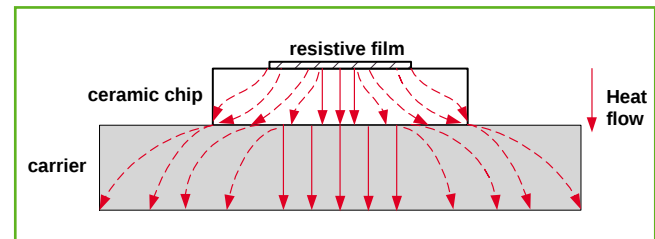
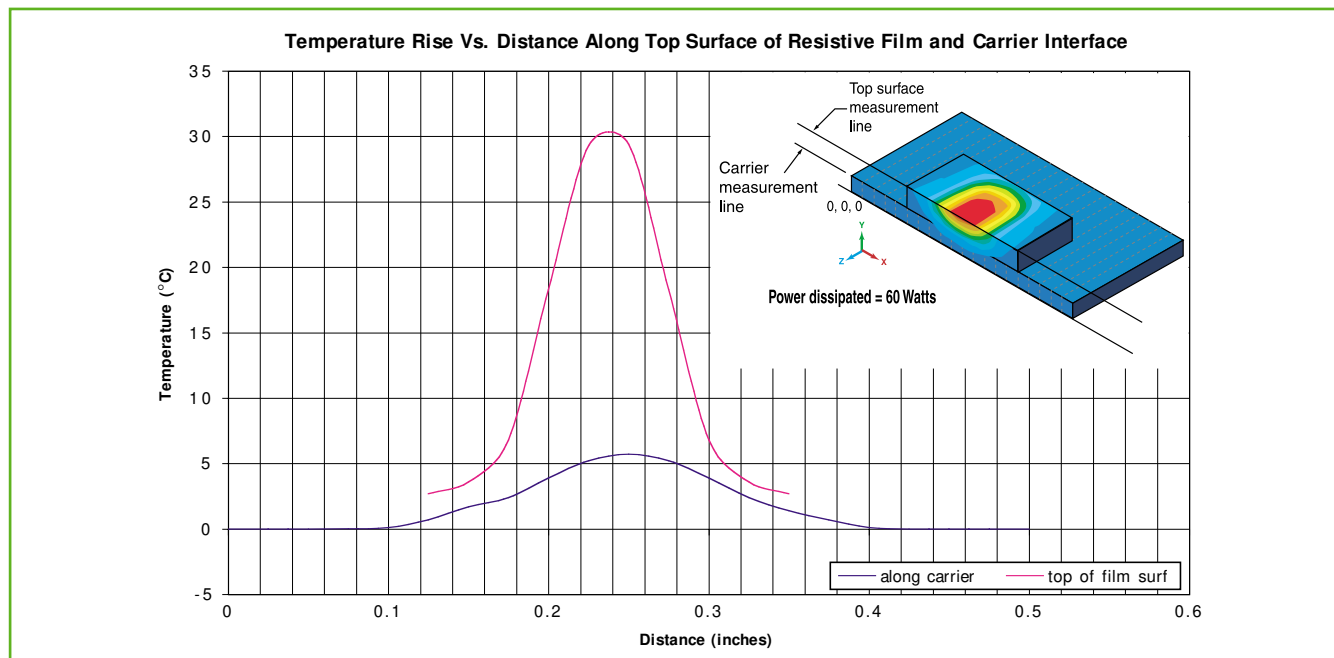
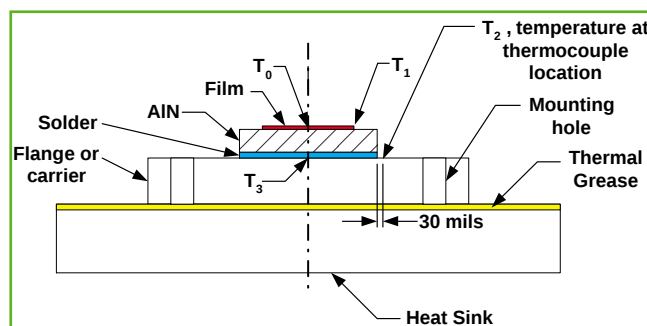

Figure 10. Heat flow around a mounted chip resistor
Figure 11: Computer simulation of isotherms around mounted chip resistor
Figure 12. Temperatures at a number of points on and around a groundplane-mounted resistive chip
Before we can do a thermal design, we must first decide on exactly what we shall mean by "power rating" for a chip device. **Figure 10** illustrates the heat flow around a mounted chip resistor. The resistive film, assumed to have constant power dissipation over its surface, behaves as an isoflux boundary, i.e., a source of uniform heat flux, rather than the isothermal boundary used in the derivation of equation (2). Were the film to completely cover the chip, the isoflux case would approach the isothermal case, but absent that condition the heat spreads out as shown.
The thermal resistance between two points is defined as the temperature difference between those points divided by the heat flow (typical units are degrees Centigrade/Watt.). It is analogous to electrical resistance, with temperature corresponding to voltage and heat flux to current. **Figure 10** indicates that there is vertical as well as lateral heat flow in both the ceramic chip and the carrier it is mounted on. This implies that the system must be represented as a lattice network of thermal resistances rather than a single
thermal resistance. (The latter can characterize only the kind of one-dimensional heat flow assumed for equation (2)) **Stated alternately, the temperature will vary laterally along the film and, also, laterally along the mounting surface.** This is illustrated in Figure 11, which was made using a "Finite Element Method" (FEM) computer simulation. In actuality, a three-dimensional latticework of resistors is needed to describe a mounted resistive chip, and there is temperature variation along all three dimensions.
The above considerations bear importantly on how a chip is designed and characterized for power handling and exactly how confirming measurements are made. Figure 12 indicates temperatures at a number of points on and around a mounted chip: (a) T_0 , at the film centroid; (b) T_1 , at the film edge or corner; (c) T_3 , on the mounting surface directly under the film centroid; and (d) T_2 , on the mounting surface 30 mils away from the chip edge. We can make the following qualitative observations:
An ideal heat sink has infinite thermal conductivity and, below the chip mounting surface, extends infinitely in all directions. (In thermal texts this is termed "a perfectly conductive half-space"). Because of the infinite thermal conductivity, T_2 would equal T_3 in Fig. 12. From Fig. 10 and Fig. 11, this clearly is not the case for any real mounting surface; in fact, $T_3 > T_2$.
One strategy for defining power rating might be to measure T_3 directly – or deduce it from a measurement of T_2 and a computer FEM model – and then specify performance as if an ideal heat sink were held everywhere at that temperature. By slicing a mounted resistor in half along its longitudinal axis – in Figure 12, perpendicular to the plane of the paper, down the centerline – we were able to take advantage of the lateral heat-flow symmetry to measure T_2 and T_3 for chips of several sizes and input powers. (The slice plane is an adiabatic boundary, i.e., no heat flows across it.) Results of such measurements are presented in Table 2. All chips were 40 mils thick and all measurements were made on a silver-plated high-conductivity copper mounting surface (see the table for more information).
- Next, since our carrier does not have infinite thermal conductivity, we must specify the **exact location – T_2 in Figure 12 – at which we hold the ambient temperature constant. We choose this as 30 mils from the chip edge along its lateral centerline** – an arbitrary, convenient spot at which to solder a small thermocouple.
In order of increasing accuracy (and decreasing convenience), film temperatures can be estimated by: equation (2) herein (no spreading); any one of several formulas available in the literature that include spreading; or an FEM computer program. The term "constriction resistance" is used to describe that component of thermal resistance over and above what would be produced by purely one-dimensional heat flow. Let us assume a perfectly conducting mounting surface in Figure 10, i.e., a surface along which there can be no lateral temperature variation. Then to calculate the total thermal resistance from the film to the mounting surface, one would compute the one-dimensional resistance of the chip with the film occupying its entire surface and then add the constriction resistance to account for the lateral constriction of the heat-flow. (Note, from the top down the heat spreads and so the term "spreading resistance" is frequently used, but from the bottom up the heat flow constricts.) There are several expressions available in the literature for the constriction resistance of heat sources mounted on rectangular channels ("flux tubes") with adiabatic walls, i.e., heat-producing films on chips that have no appreciable heat conduction perpendicular to their sidewalls. One formula that yields constriction resistance based on an average film temperature is⁵.